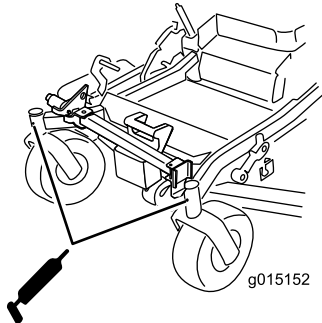

Figure 48
10. Remove the grease zerk in the hole. Install the hex plug and dust cap (Figure 48).